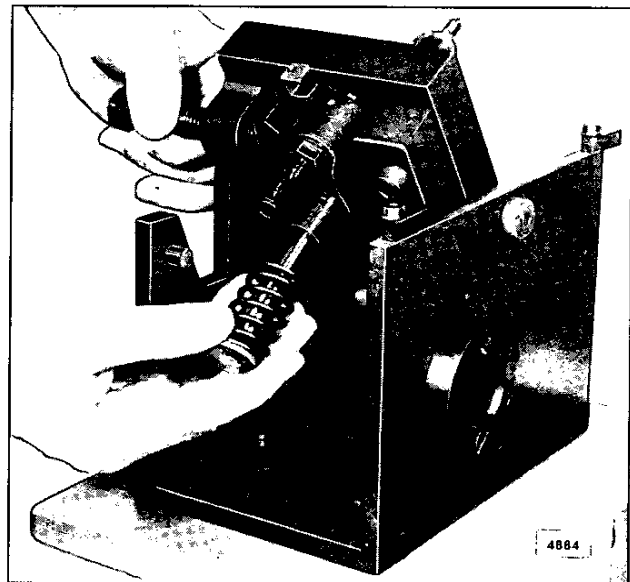

Fig. 12 – Removing or Installing Plunger Follower, Plunger and Spring
3. Refer to (Fig. 12) and remove the plunger follower, plunger and spring as an assembly.